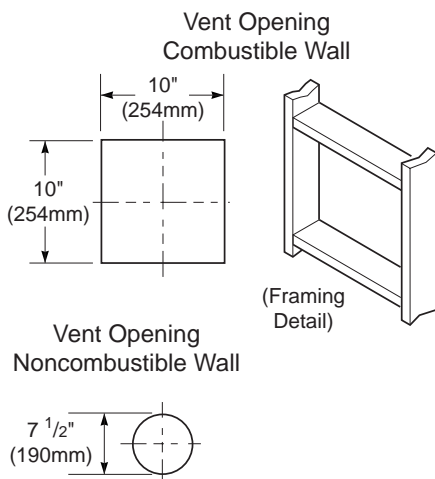
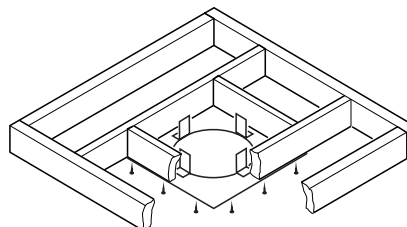

Figure 12 - Vent Opening Requirements
Figure 22 - Installing Firestop
- Attach vent pipe assembly to the fireplace. Set fireplace in front of its permanent location to insure minimum clearances. Mark the wall for a 10" square hole (for noncombustible material such as masonry block or concrete, a 7 1/2" diameter hole is acceptable). See Figure 12. The center of the hole should line up with the centerline of the horizontal rigid vent pipe. Cut a 10"x10" (254mm x 254mm) square hole through combustible exterior wall (7 1/2" [190mm] diameter hole if noncombustible). Frame as necessary (see Figure 12).
1. Cut a 10" square hole in the ceiling using the locating hole as a center point. The opening should be framed to 10"x10" (254mm x 254mm) inside dimensions, as shown in Figure 12 on page 9 using framing lumber the same size as the ceiling joists. If the area above the ceiling is an insulated ceiling or a room, nail firestop from the top side. This prevents loose insulation from falling into the required clearance space. Otherwise, install firestop below the framed hole. The firestop should be installed with no less than three nails per side (see Figure 22).
3. Cut a hole in the roof using the locating hole as a center point. (Cover any exposed open vent pipes before cutting hole in roof.) The 10"x10" hole must be measured on the horizontal; actual length may be larger depending on the pitch of the roof. There must be a 1" clearance from the vent pipe to combustible materials. Frame the opening as shown in Figure 12 on page 9.